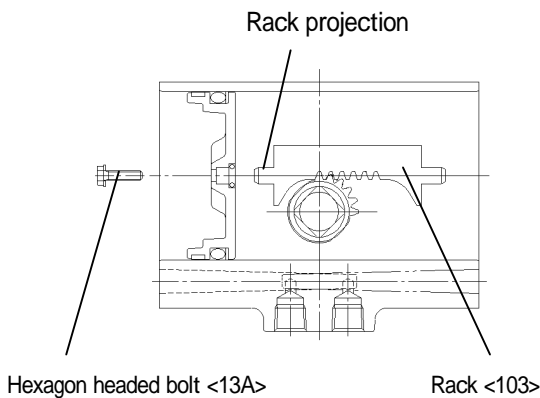

Fig.14
(6) Lubricate the gear rack teeth and assemble it with the piston as follows: Mesh the first tooth of the pinion with the first space (bottom of tooth) of the rack, and insert the projection of the rack into the center hole of the piston. Temporarily assemble the piston and the rack with a hexagon headed bolt. Apply LOCKTITE No.262 or the equivalent to the bolt beforehand for secured assembly (Fig.14).